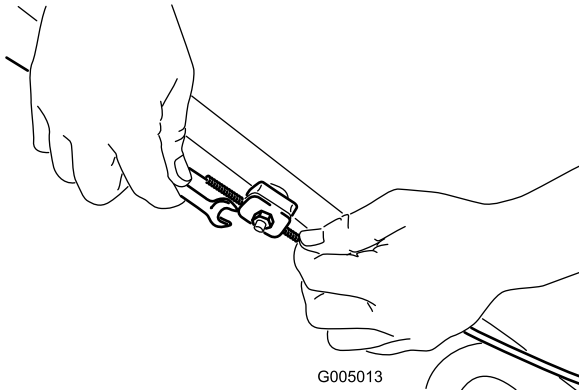

Figure 30
1. Loosen the cable support nut (Figure 30).